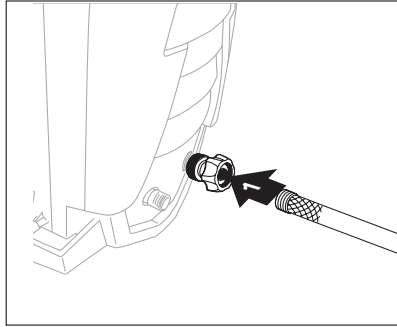

Fig. 14
- Flush out garden hose before connecting to garden hose adapter. Attach garden hose to the garden hose adapter (Fig. 14).